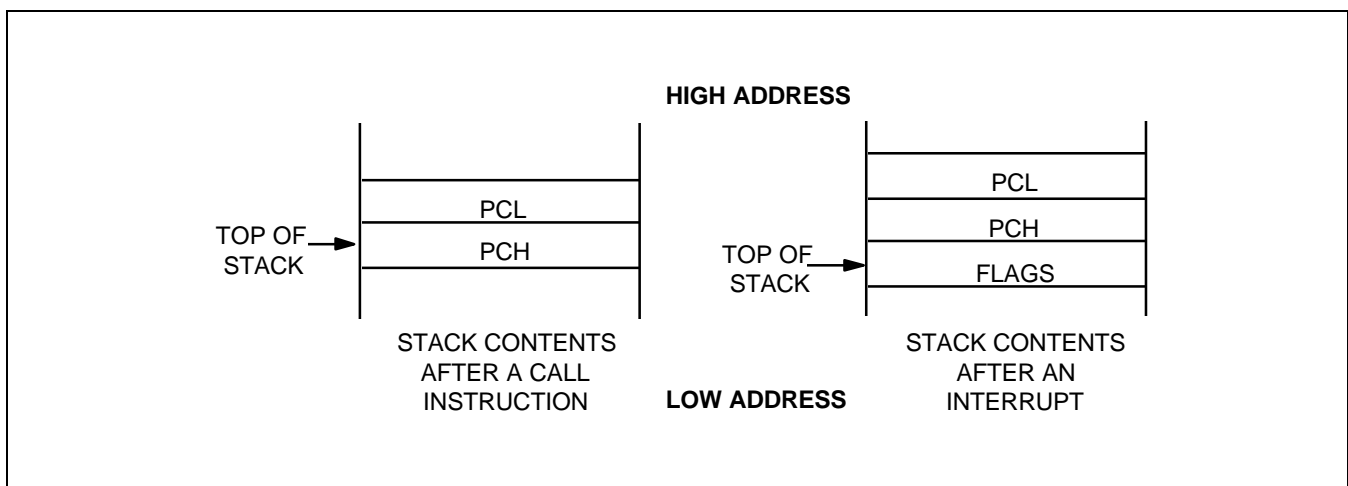

Figure 2-4. Stack Operations
Return addresses for procedure calls and interrupts and data are stored on the stack. The contents of the PC are saved to stack by a CALL instruction and restored by the RET instruction. When an interrupt occurs, the contents of the PC and the FLAGS register are pushed to the stack. The IRET instruction then pops these values back to their original locations. The stack address is always decremented *before* a push operation and incremented *after* a pop operation. The stack pointer (SP) always points to the stack frame stored on the top of the stack, as shown in Figure 2-4.